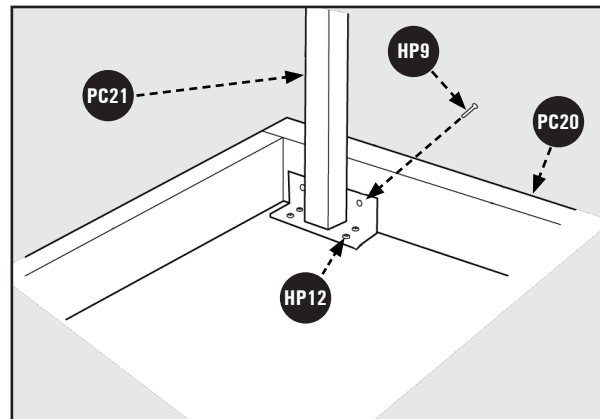

Figure 11
2. Position table legs **PC21** in corner as shown in Figure 11 the vertical wall of the angle plate on the leg should be against the end wood wall of the table.